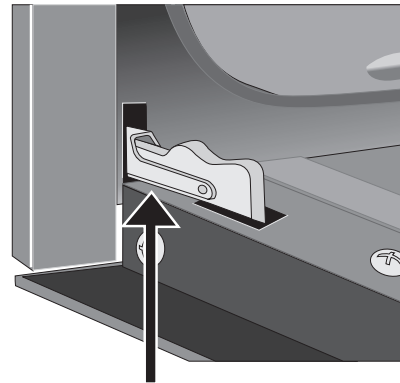
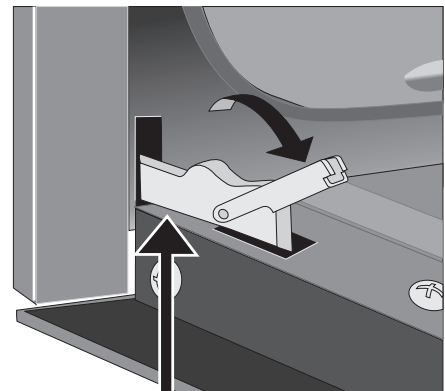

Figure 24: Door hinge locked
Figure 25: Unlocking door hinge
2. Pull up the lock located on each hinge support toward front of the oven until the lock stops. You may have to apply a little upward pressure on the lock to pull it up (Figure 24 and Figure 25).
4. Push the door hinge locks up toward and into the oven frame on both left and right oven door hinges to the locked position (Figure 24).